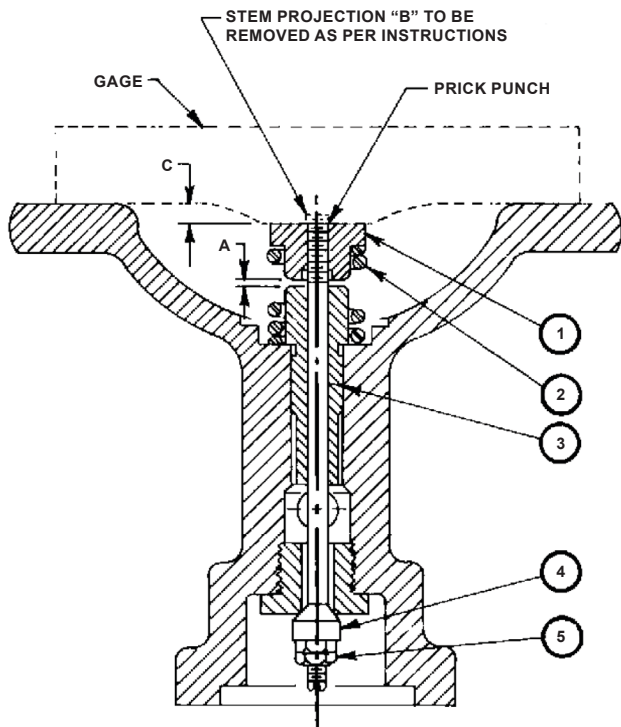

Figure 7. Travel Setting - All A Series Pilots except Type A
3. Secure disk (key 4) to stem (key 3) with a stem nut (key 5). Insert this assembly into pilot body (omit valve spring).
5. Screw pusher plate (key 1) on stem (key 3). Holding disk against its seat, adjust the pusher plate so that dimension C = 11/64 in. / 4.4 mm (See Figure 7 or 8).